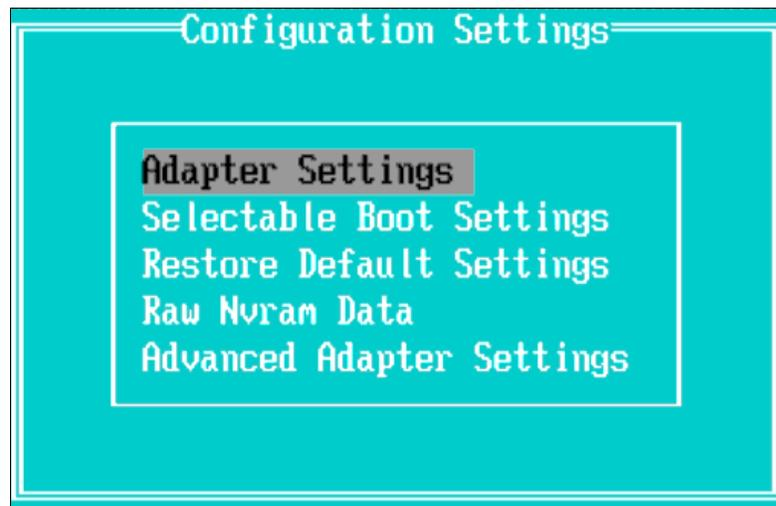

Figure 18-25 Adapter Settings panel
5. Select **Adapter Settings** and press Enter, as shown in Figure 18-25.